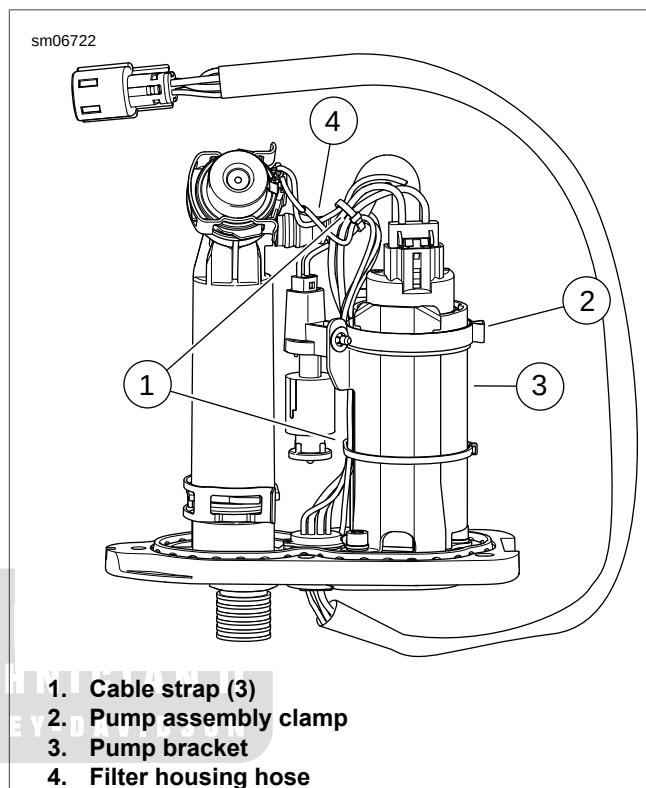

Figure 4-77. Fuel Pump Cable Straps and Pump Clamp
See Figure 4-77. Maintain the relative positions of the wiring harness cable straps (1) and pump assembly clamp (2).
1. See Figure 4-77. Remove cable strap (1) securing wiring harness to the filter housing hose (4).
1. See Figure 4-77. Make note of the location of any cable straps securing wiring harness to the fuel pump bracket (3). Remove cable straps.
1. See Figure 4-77. Make note of the location of cable strap (1) securing low fuel level sensor connector to filter housing hose (4). Remove cable strap.
2. Plug the fuel pump/sender harness connector (15) into the low fuel level sensor (17).
3. See Figure 4-77. Secure low fuel level sensor connector and fuel pump/sender harness to filter housing hose (4) with cable strap (1).
2. Install low fuel level sensor assembly (17) onto pump bracket. Secure with push nut (16).
3. Install fuel pump assembly (2) with pump insulator (3) onto pump bracket. Secure with pump assembly clamp (7) (for relative position of clamp, see Figure 4-77.)
4. Install filter housing hose (11) on top of fuel pump. Secure with clamp (1).
5. Plug in fuel pump harness connector [86] (13).
6. See Figure 4-77. Secure fuel pump/sender harness to fuel pump bracket (3) with cable straps (1).
4. Install filter housing hose (11) on top of fuel pump (2). Secure with clamp (1).
5. Install ground clip (12) on top of filter housing.
6. See Figure 4-77. Secure fuel pump/sender harness to filter housing hose (4) with cable strap (1).